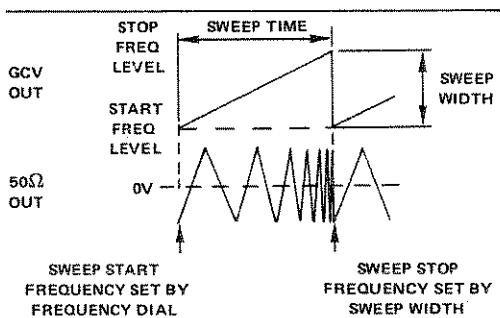

Figure 3-2. Effect of Sweep Time and Width on Output Frequency
③ SWEEP WIDTH Control
The SWEEP WIDTH control determines the amount of frequency change that will occur in sweep mode. After the sweep start frequency is set by the frequency dial ②, SWEEP WIDTH determines the sweep stop frequency (see figure 3-2).
④ SWEEP MODE Selector
Frequency of the internal sweep ramp, and thus, the sweep repetition rate, is governed by the SWEEP TIME control (see figure 3-2).